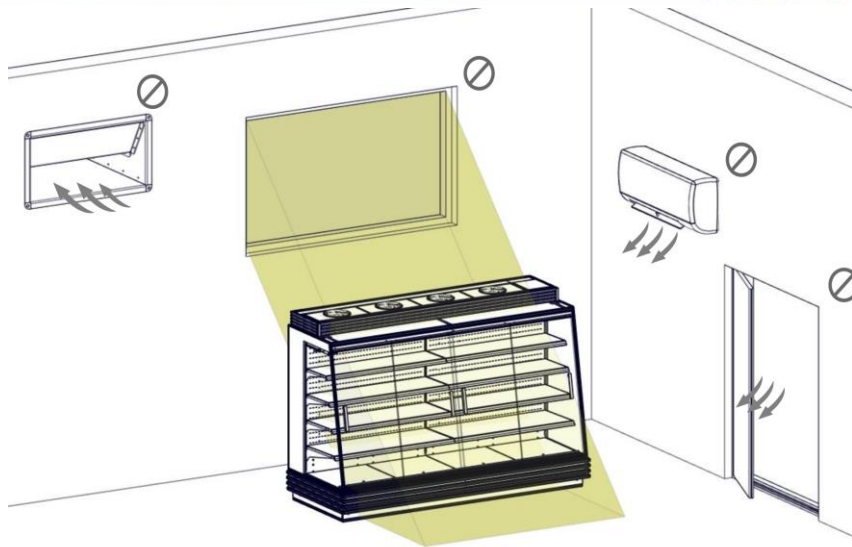

Fig. 15. Example of unsuitable ambient conditions
- It is forbidden to install the unit close to any heating equipment or any HVAC elements (air outlet, etc.) (**Fig. 15**).